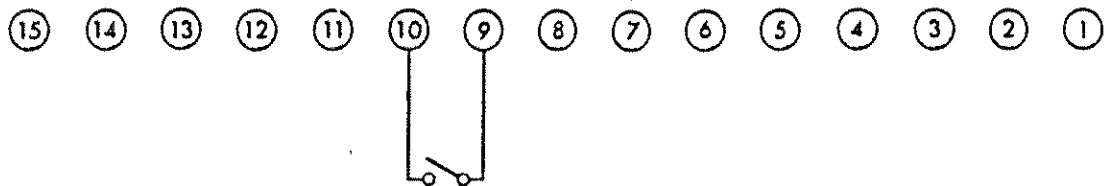

Figure 2-14-1
1. As shown in Fig. 2-14-1, connect the external load switch between terminals 9 and 10 on the terminal board. The switch capacity should be around 125 V AC at 1 A.